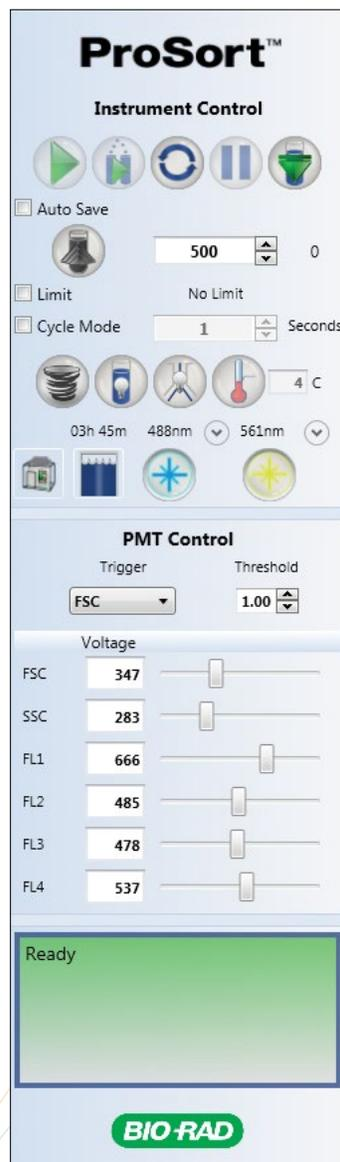

Fig. 8. Start and Stop buttons in the instrument control panel.
6. In the instrument control panel, click the **Start** button to begin sample acquisition (Figure 8).